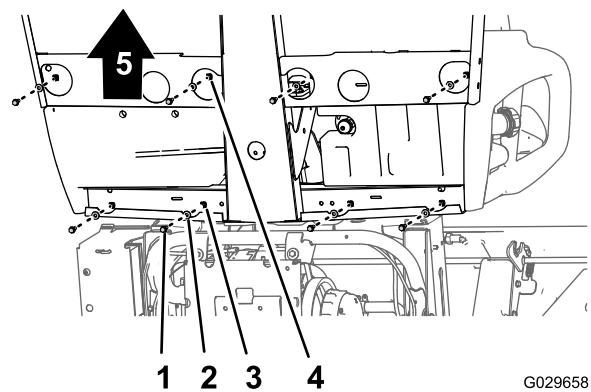
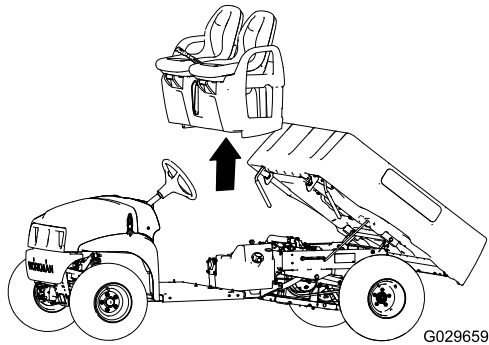

Figure 42
Figure 43
1. At the bottom of the machine, remove the 8 flange-head bolts and 8 washers that secure the seat base to the floor plate and rear-cab channel (Figure 42).
- Carefully lift the seats, seat base, and parking brake cables from the machine (Figure 42).
1. Lift the seats and seat base onto the machine and align brake cables to the chassis (Figure 42 and Figure 43).
2. Align the holes in the seat base with the holes in the floor plate and rear-cab channel (Figure 42 and Figure 43).